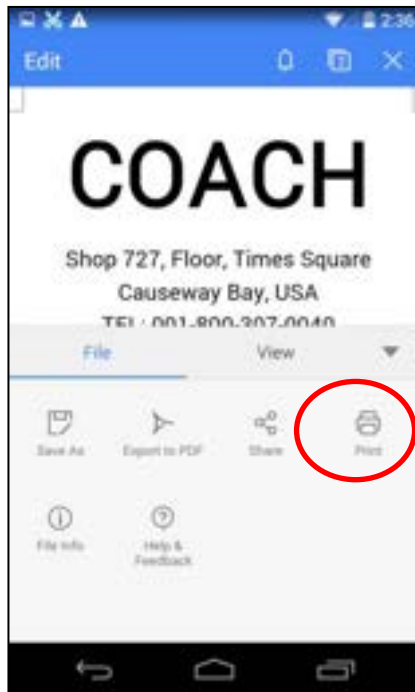

Figure 27
4.3 When the menu pops up, select "Print", as shown in Figure 27;